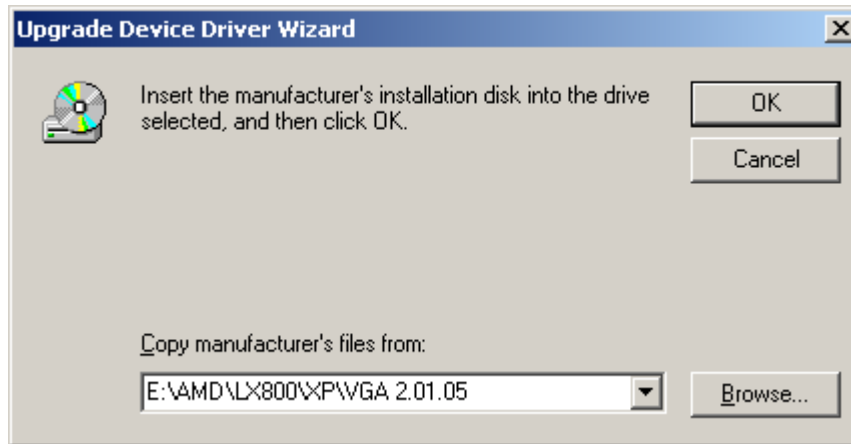

Figure 7-12: Location Browsing Window
**Step 10:** Click **Browse** and navigate to the **X:\AMD\LX800XP\VGA 2.01.05** directory, where “X:” is the system CD drive (Figure 7-12).